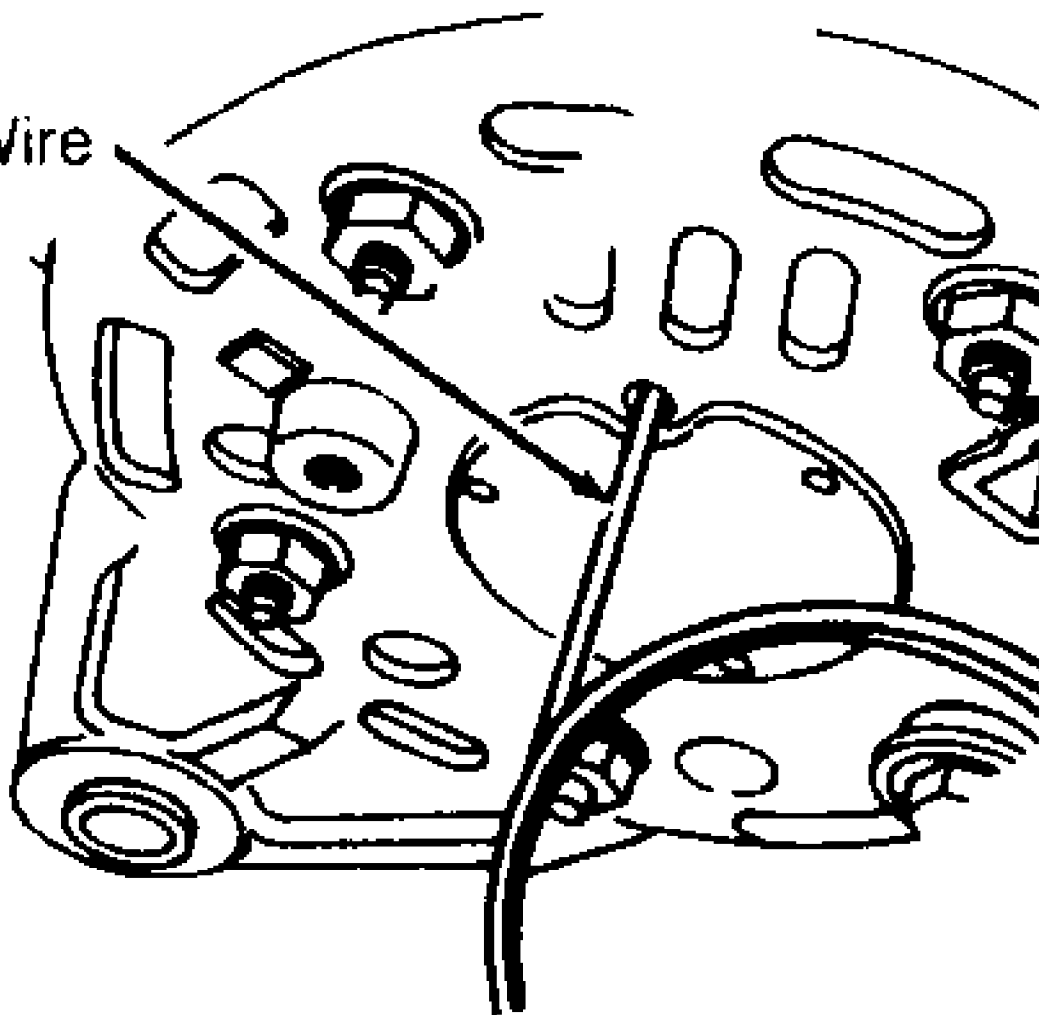

Fig. 1: Full Fielding Hitachi Alternator
2) If light is off, disconnect alternator connector and ground wire of terminal "L". If light remains off, replace indicator bulb and recheck. If light comes on, reconnect alternator and ground internal terminal "F" using jumper wire. See Fig. 1. If light is off, repair alternator. If light is on, replace IC regulator.